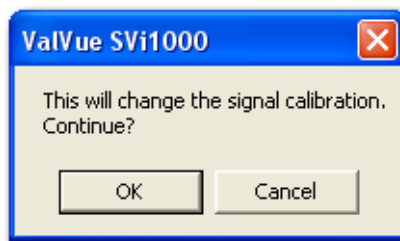

Figure 34 This Will Change Calibration
1. Click **Calib. Signal.** and Figure 34 dialog appears.